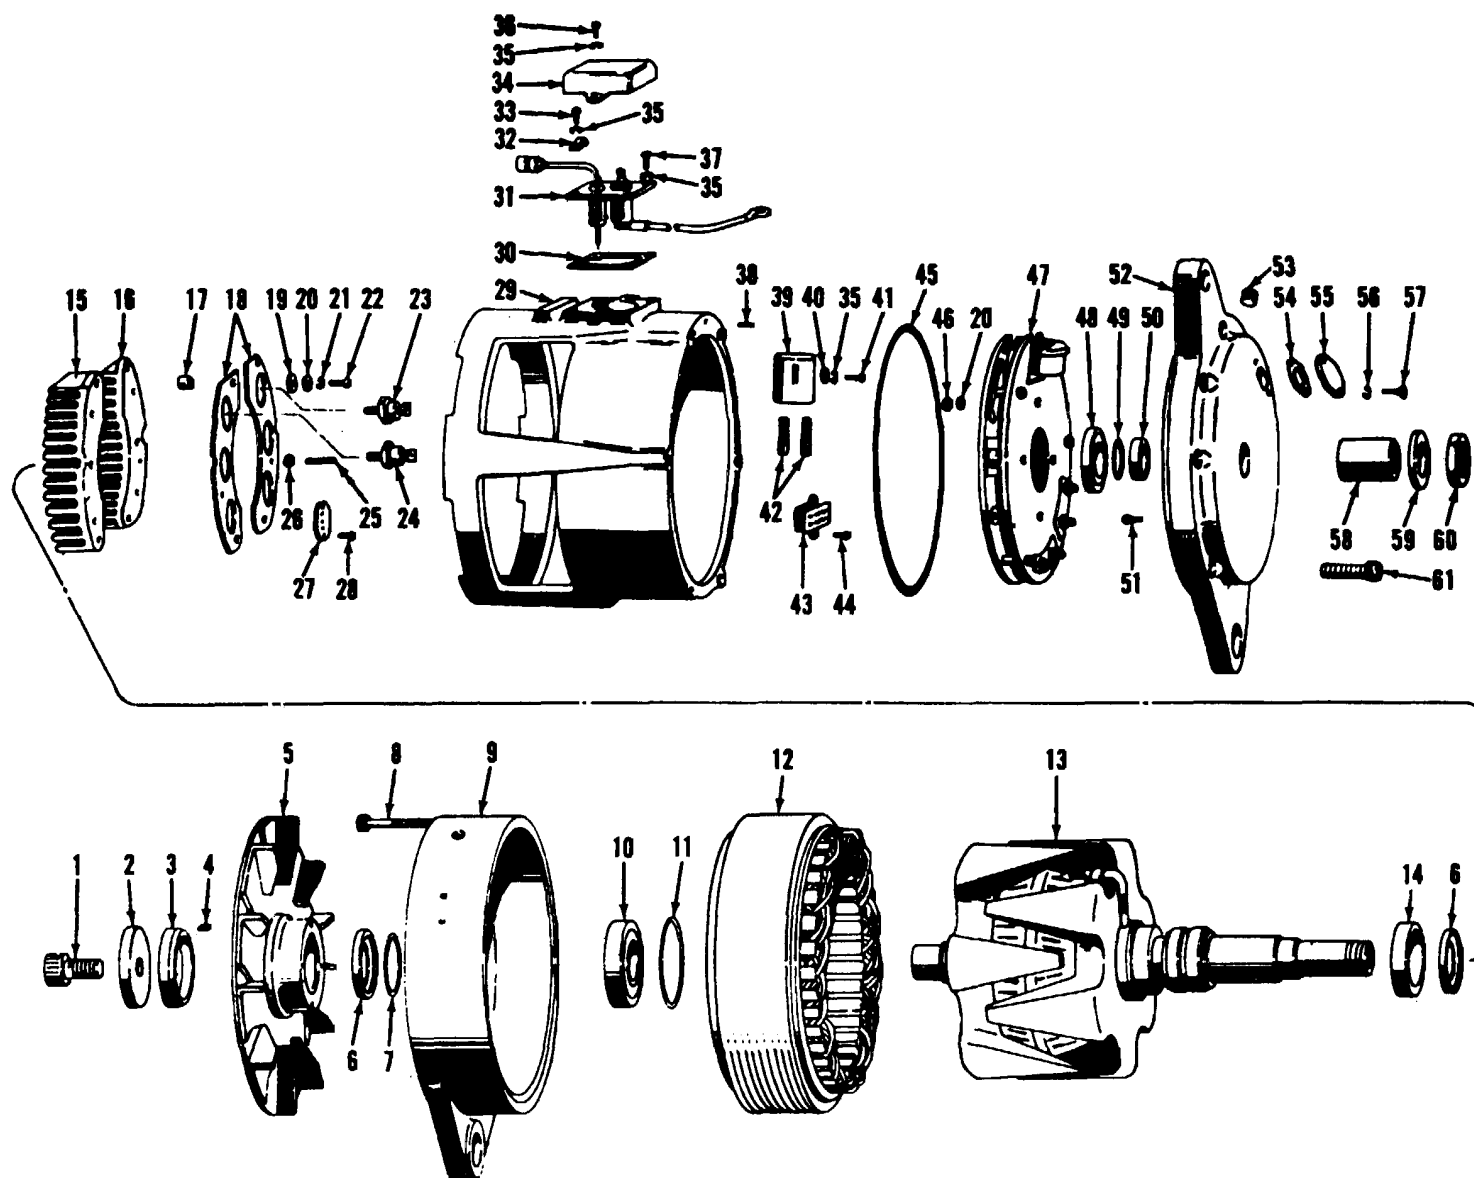

Figure 3-1. Alternator assembly, exploded view.
(1) When installing a battery, always make absolutely sure that the ground polarity of the battery and ground polarity of alternator are the same.
(2) When connecting a charger to battery, connect charger positive lead to battery positive terminal and charger negative lead to battery negative terminal.
(3) Never operate an alternator on open circuit. Make absolutely certain all connections in the circuit are secure.
(4) Do not short across or ground any of the terminals on the alternator.
(5) Do not attempt to polarize the alternator. This procedure will almost certainly ruin the diodes.
c. Disassembly. Refer to figure 3-1 and
KEY TO FIGURE 3-1